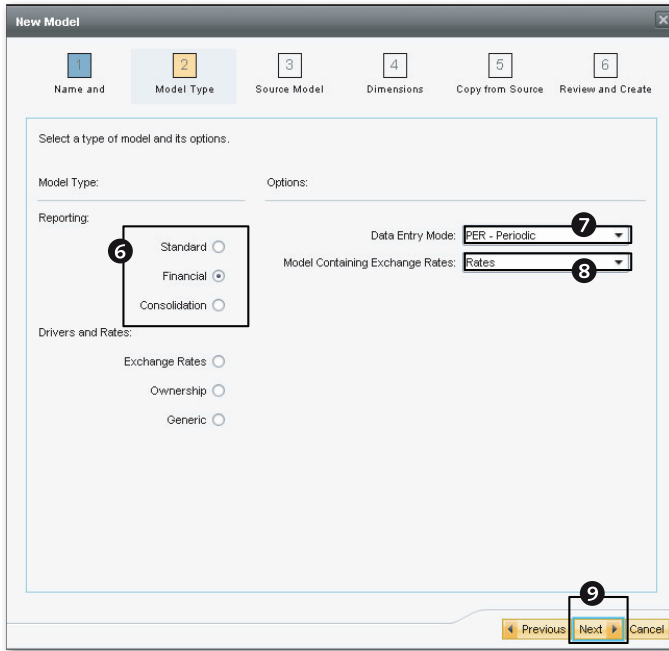

Figure 3.39 Creating a Model—Part C
4. You're prompted to select the model type. We want to create a financial model that can be reported, so under REPORTING, select FINANCIAL (Figure 3.39, ⑥). The default data model of type FINANCIAL is PER - PERIODIC (Figure 3.39, ⑦). A Financial model should always be associated with an Exchange Rates model. A model called RATES is delivered as part of ENVIRONMENT SHELL and has been copied into the current environment. Select this model as the Exchange Rate Model (Figure 3.39, ⑧). Select NEXT (Figure 3.39, ⑨).